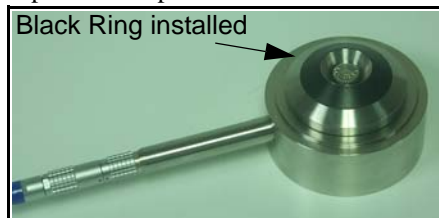

FIGURE 5-22 Black Conical ring installed on AEC201
- Step 4** Place the black conical ring (FIGURE 5-22) on the top of the coupler.